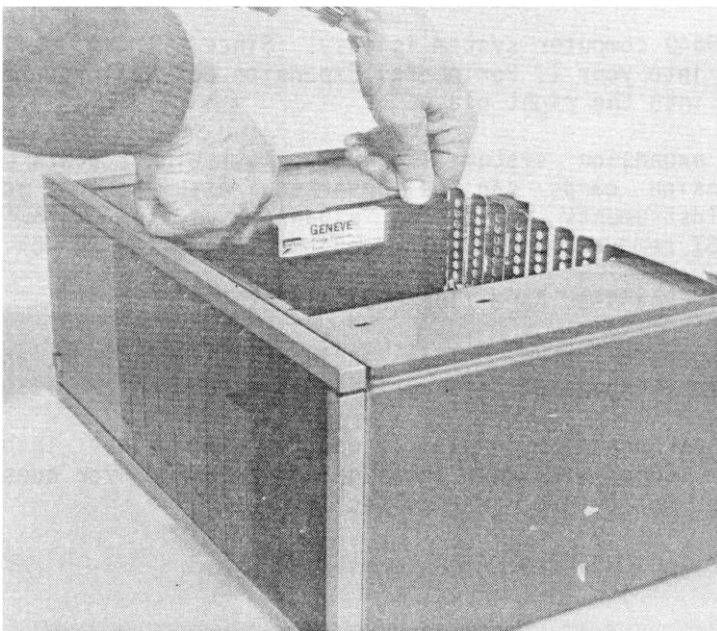

Figure 4 – Inserting the 9640 computer card into the Peripheral Expansion Box
6. Carefully align the 9640 Computer Card in the first slot (marked by a 1) and press the card firmly down into the slot. You should be able to feel the connection being made between the 9640 Computer Card and the PE box. See Figure 4.